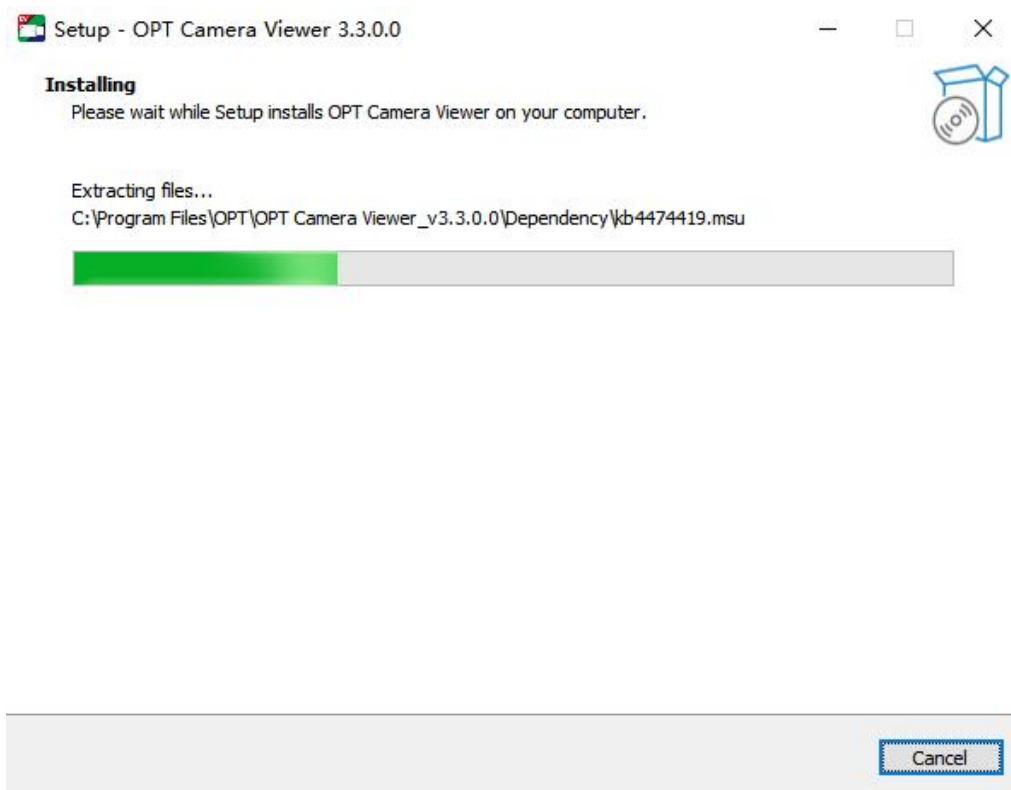

Figure 3-6 Installation window
7. Enter the installation window as shown in Figure 3-6 and wait for installation.